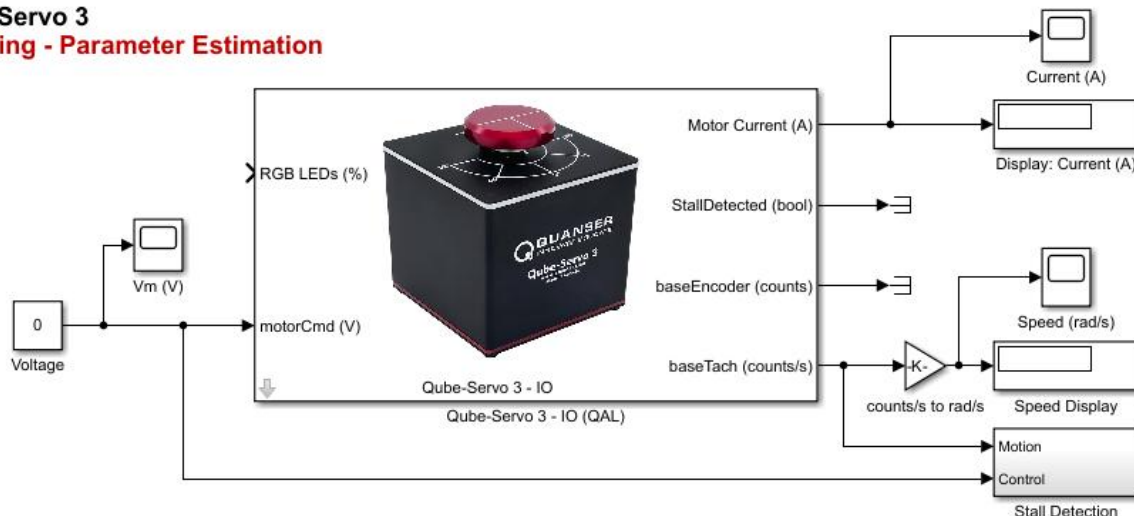

Figure 1: Model applying a voltage to the Qube and measuring motor current and speed.
Using the gains found to convert tachometer counts/s into rads/s from the instrumentation labs, use the qs3\\_parameter\\_estimation.slx file to design a model that applies a constant voltage to the motor and reads the motor current of the Qube-Servo 3 as shown in Figure 1.
4. To experimentally estimate the motor resistance, apply a set of voltages to the Qube-Servo 3 using the model in Figure 1. For each measurement, *hold the motor shaft stationary* by grasping the inertial disc load to stall the motor. Record the current measurement displayed in the Current (A) display. To prevent any issues with the Qube-Servo, please do not hold the motor stalled for more than 2 seconds at a time.